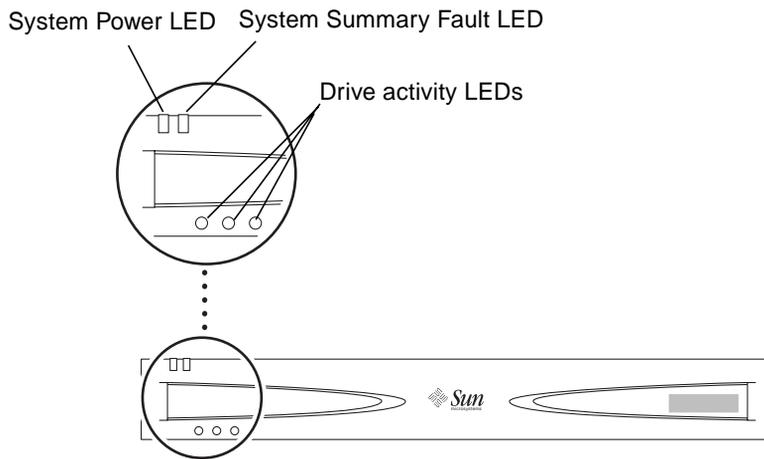
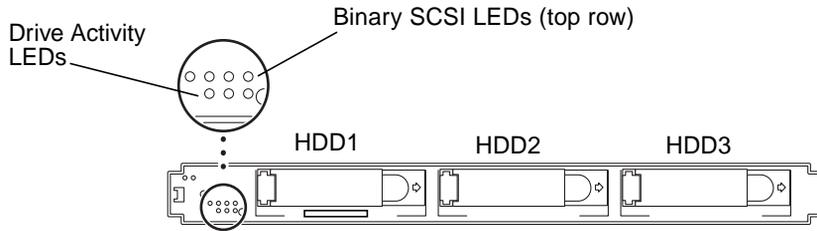

FIGURE 5-1 Front Panel LEDs With Bezel
FIGURE 5-2 Front Panel LEDs With Bezel Removed
The front panel LEDs indicate system power, system faults, hard drive activity, and SCSI ID assignments. FIGURE 5-1 and FIGURE 5-2 show the location of the front panel LEDs and TABLE 5-1 shows their meanings and gives corrective actions. There is also a quick-reference card attached to the system which explains what the SCSI ID LEDs mean.
2. **Locate the binary SCSI LEDs (see FIGURE 5-2).**